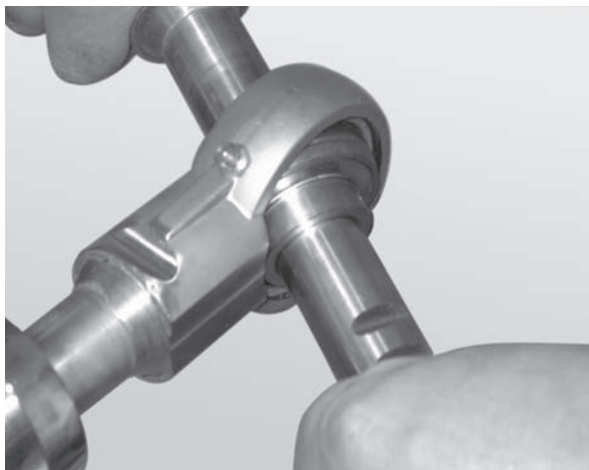

Figure 89
2. Insert the rod end of a second bearing shaft through the bearing (**Figure 89**).